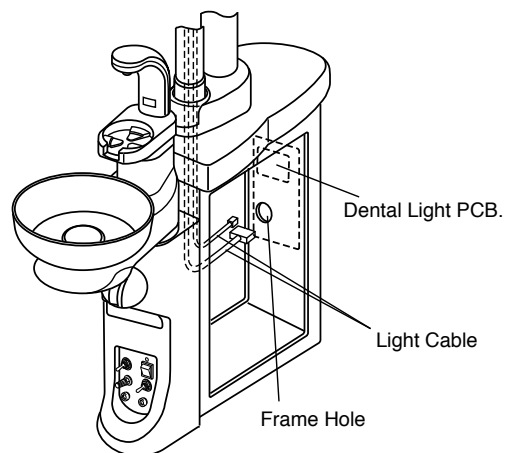

Fig.6-16 Connecting the Dental Light Connectors
F. Pass the light cable through the cuspidor frame hole. Connect the connectors of the dental light cable to the dental light PCB. The dental light PCB is located at the rear side of the cuspidor unit. **(Fig.6-16)**